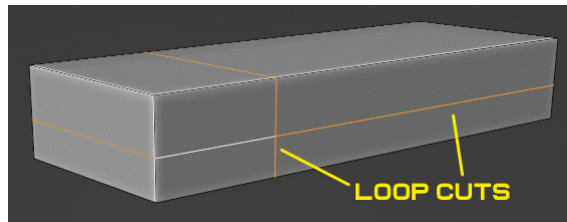

Figure 7.3 – Loop cuts
3. Add two loop cuts by pressing *Ctrl + R* to get the shape shown in *Figure 7.3*: